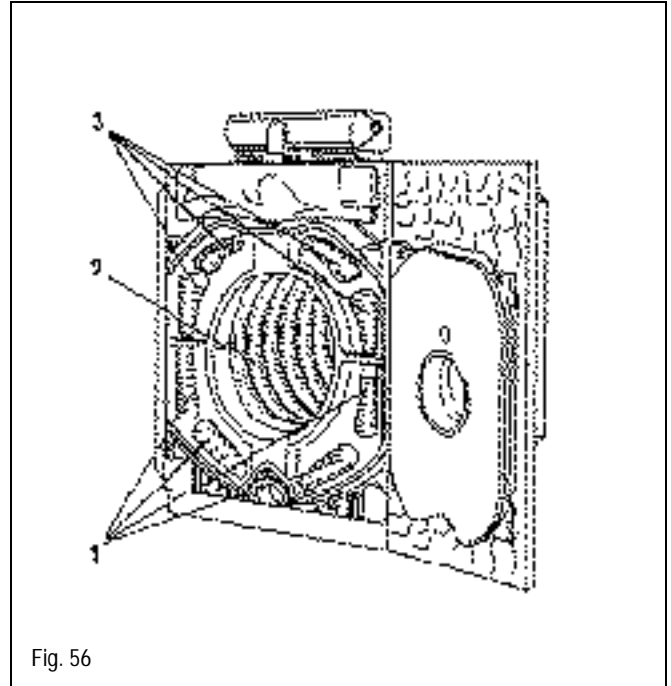

Fig. 56
- Use brush No.'s 4 and 5 to brush all secondary and tertiary flue passages (1,3) (Fig. 56).
- Brush the main combustion chamber (2) with brush No.8 (Fig. 56).
- Clean the lower flue passages from the front with brushes No.'s 4 and 5 (Fig. 56).